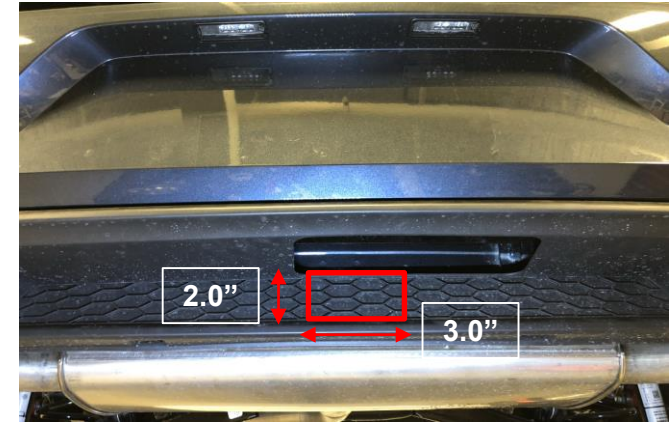

Figure 2
- 6. Trim bumper fascia:** Locate the opening on the bottom fascia and trim the area as shown in **Figure 2**.